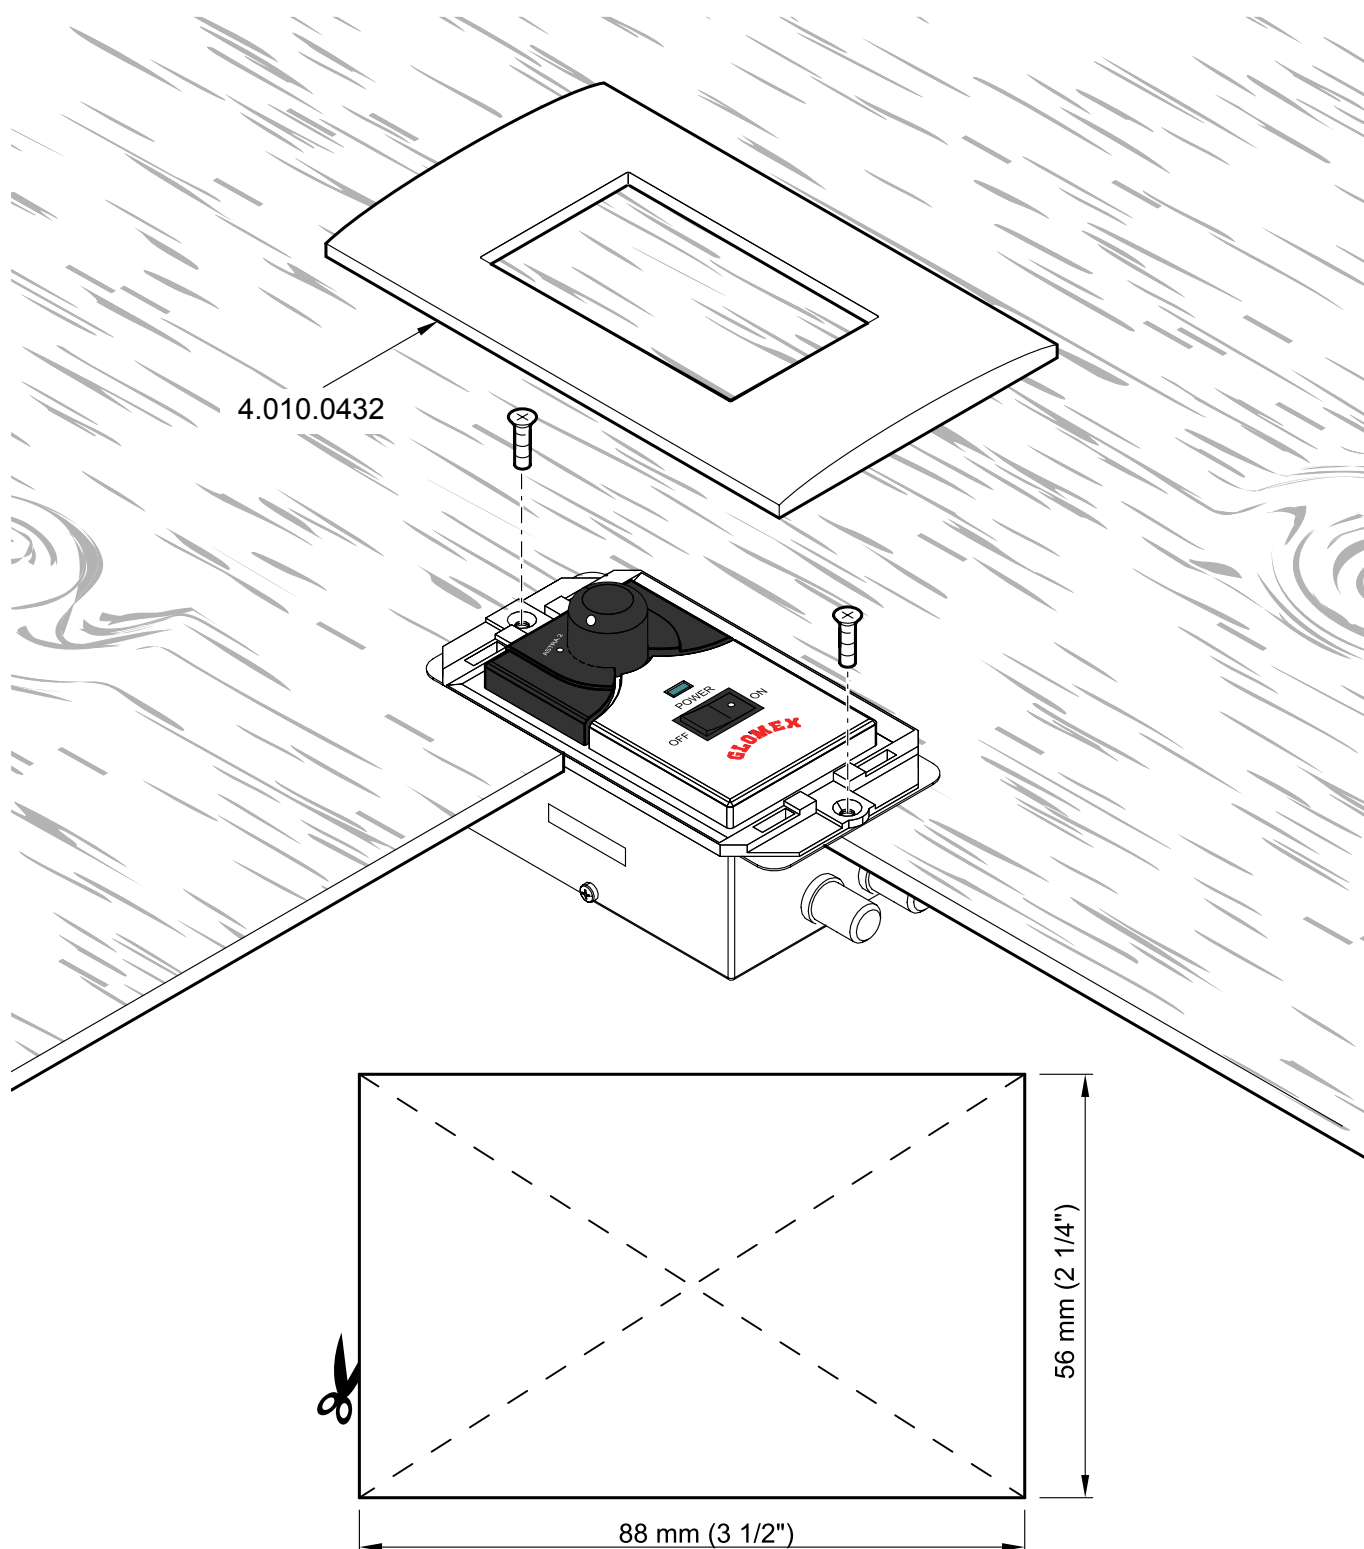

Fig. 20
7. As an alternative, it is possible to build in the control unit by using commercial plates (3-module plates) or the GLOMEX accessory (not included: code 4.010.0432, see **Fig. 20**) by boring a hole with a reciprocating saw and using the drill with 2.5 mm tip (use the template on the following page for correct dimensions).